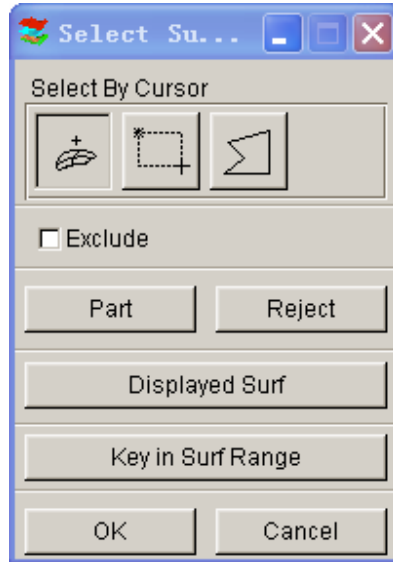

Figure 4.3.8 Select Surface
- Select SURFACE(S), and the SELECT SURFACE dialog window appears. See Figure 4.3.8.